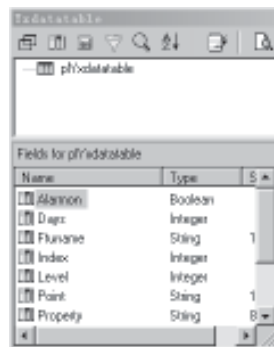

**Fig. 8-10 Set Ordering Fields**
2.7 Select the ordering conditions as in Fig. 8-10. Natural Order means not ordering and Set Order means selecting the ordering fields. Then click **Next**.